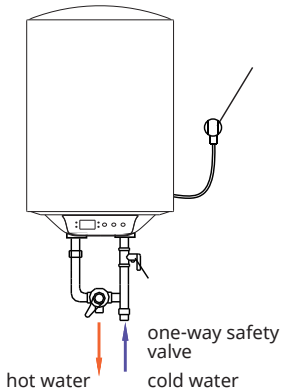

Fig. 5
**Caution:** The multifunction valve attached with the heater must be installed at the cold water inlet of this heater (See Fig. 5).